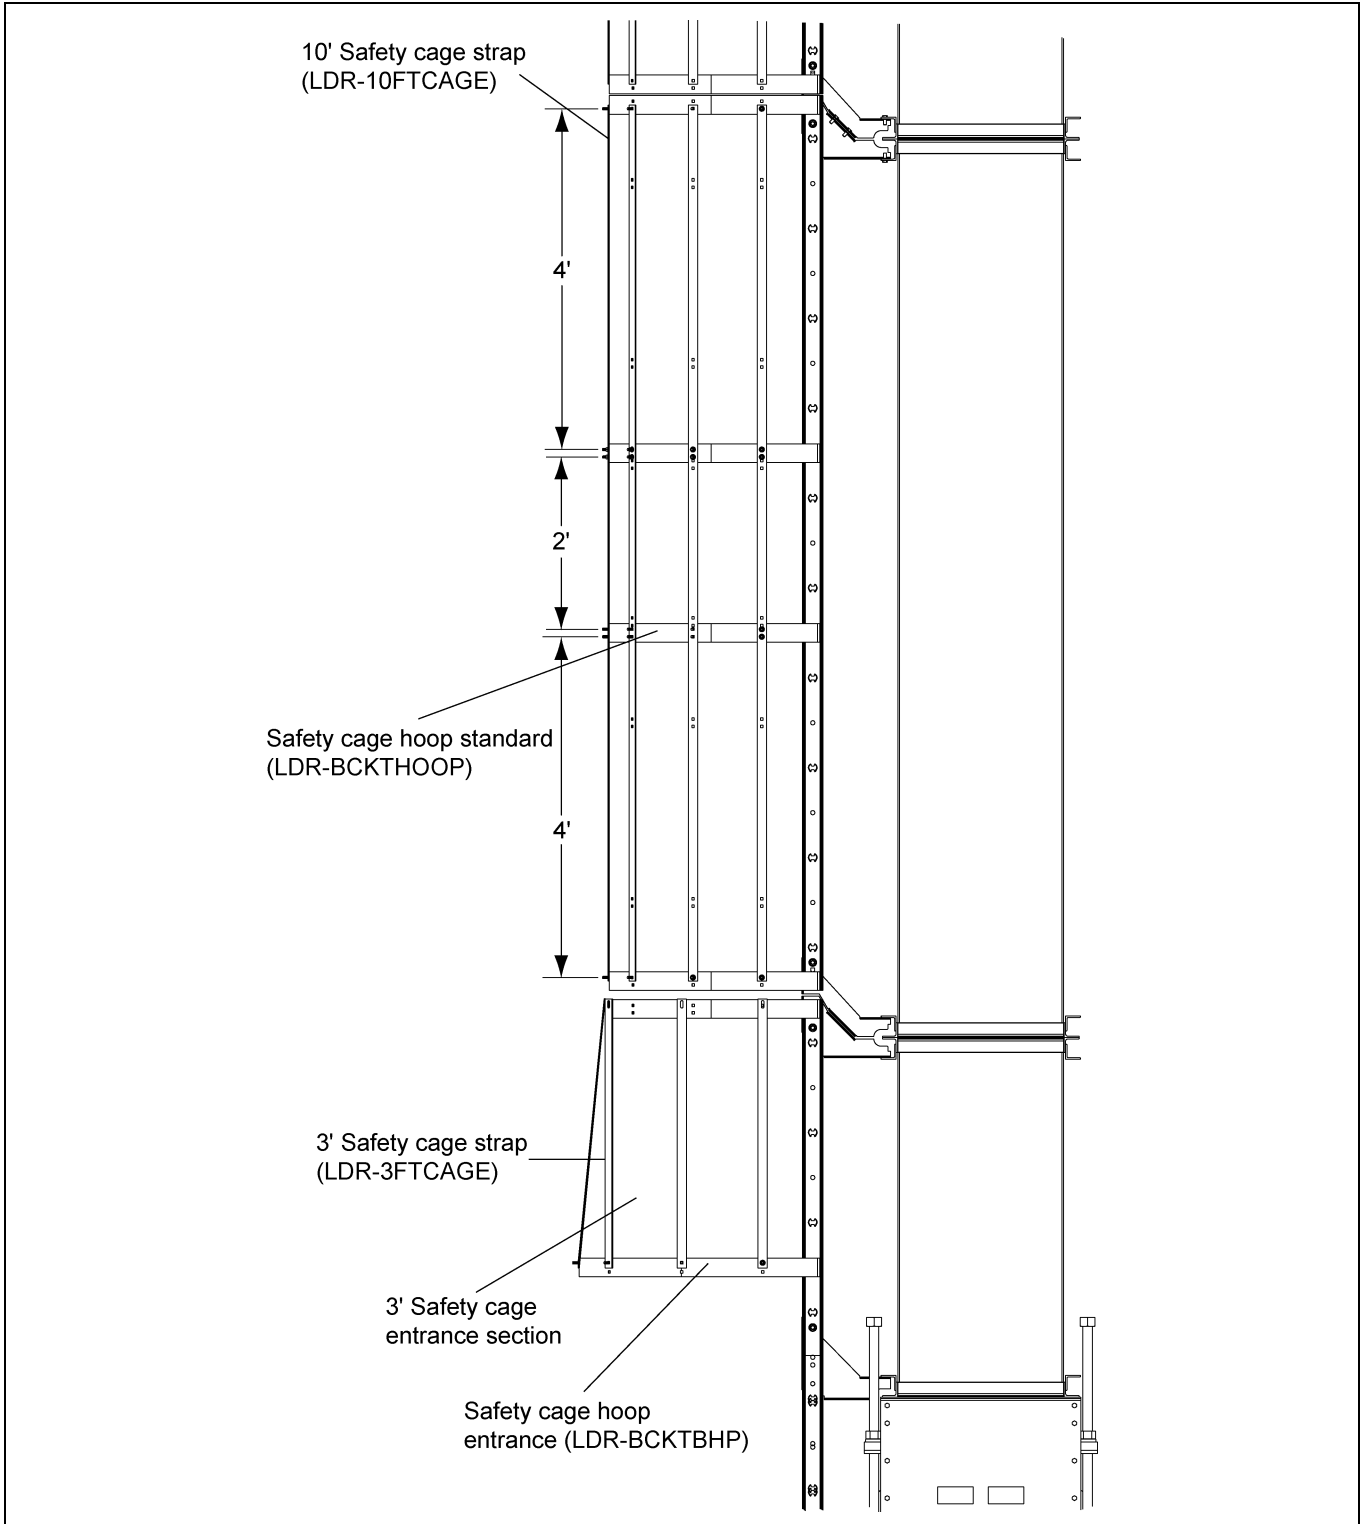

Figure 6W 10' Safety Cage Section
1. Locate safety cage hoops (LDR-BCKTBHP) along the ladder rails where the safety cage hoops will be installed. **NOTE:** *The end hoops of a 10' section are spaced 4' from the two (2) middle hoops, which are spaced 2' apart. See Figure 6W for spacing. (See Figure 6W.)*